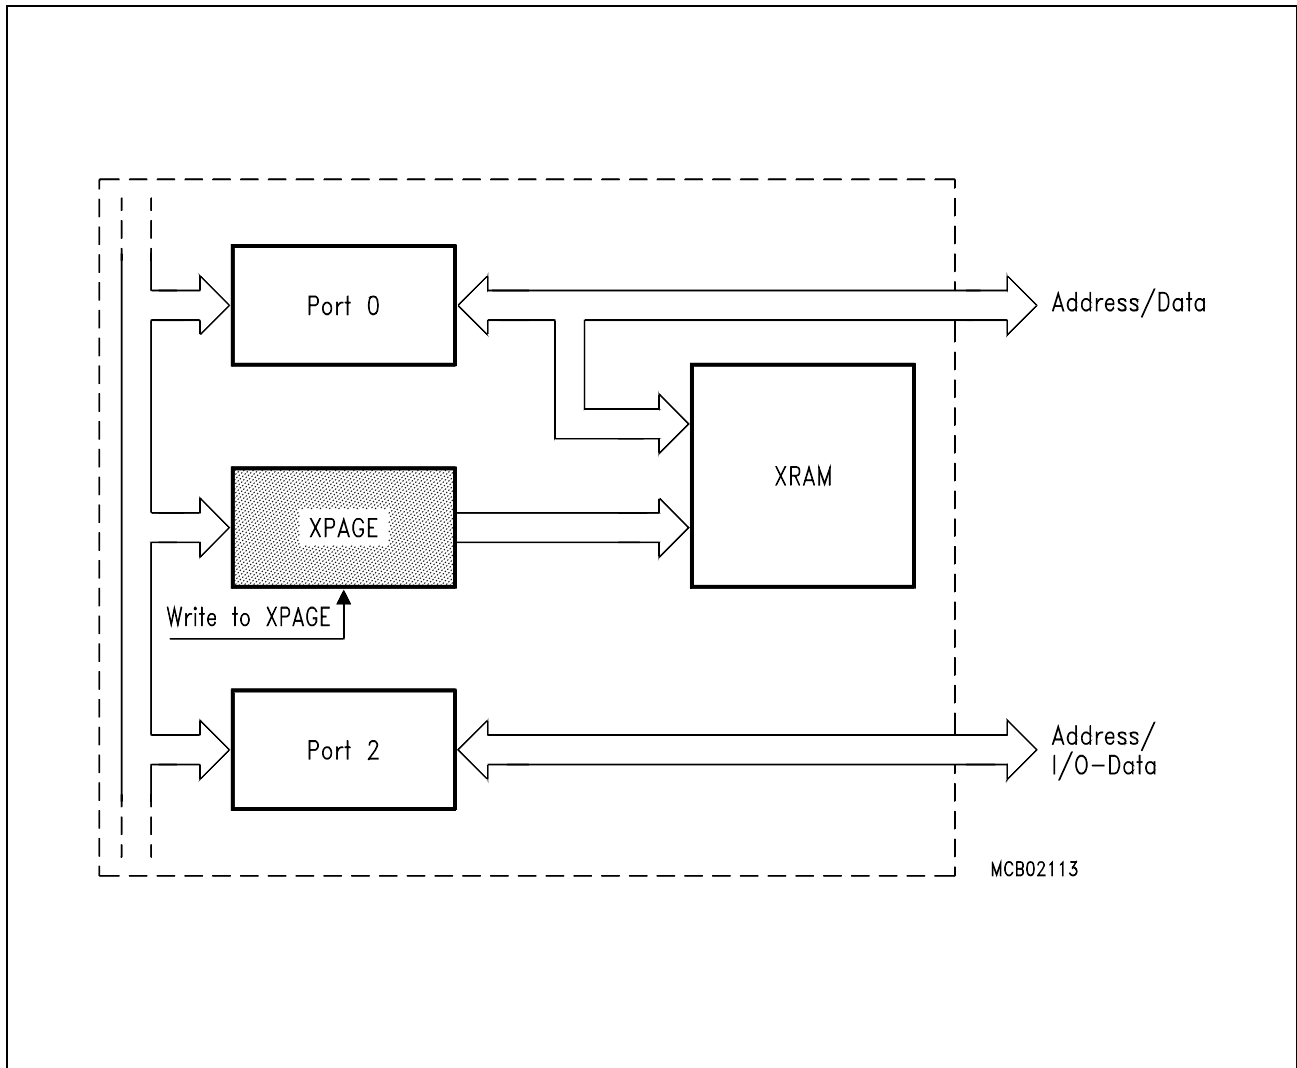

**Figure 3-2**
**Figures 3-2 to 3-4** show the dependencies of XPAGE- and Port 2 - addressing in order to explain the differences in accessing XRAM, ext. RAM or what is to do when Port 2 is used as an I/O-port.